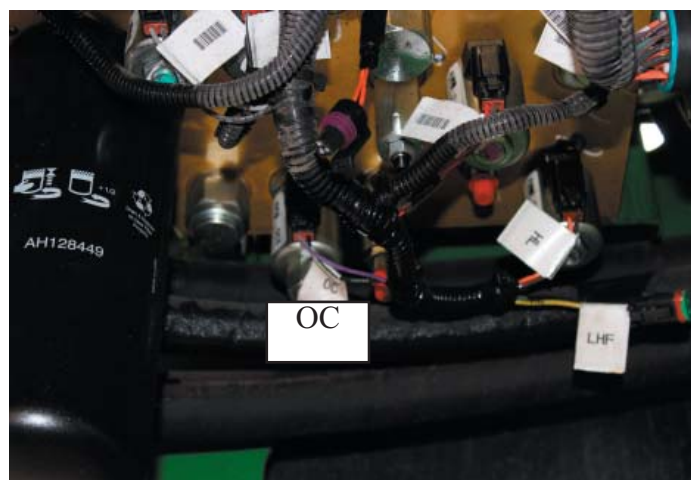

Figure 2.8 - Electrical Harness
Refer to the *electrical diagram on page 10* & *Figure 2.8* for this step.
1. The supplied wiring harness will allow you to plug and play with the existing wiring harness on your factory “Open Center” valve. To hook up your electrical circuit using harness #2703 on a W235 you need to tee the harness into wire labeled simply as “OC” for open center *as shown in Figure 2.8*.